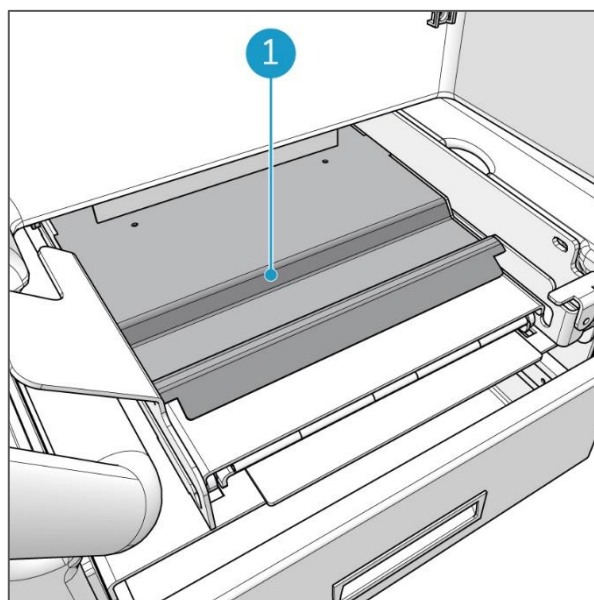

Figure 70
First unload the i-mop lite, see section 7.8.1. Wipe the plateau on which the wheels of the i-mop lite rest (Figure 70, pos 1) with a damp cloth.